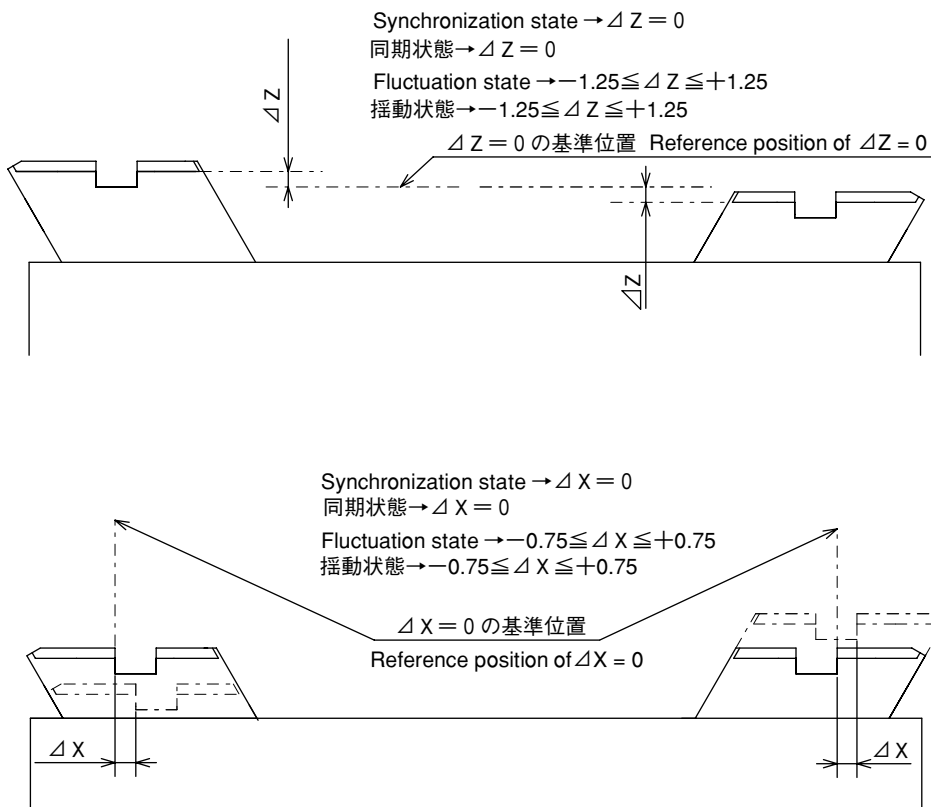

Fig. 2-4 揺動状態図（単位はmm） Fluctuation State Drawing (Unit: mm)
③給油は、北川チャックグリースを使用します。
④ジョー取付ボルトの締付トルクは、規定トルクで締付ます。
⑤この表の最大把握力は供給圧力が0.6MPaの時です。
(3) 空圧力は0.2~0.6MPaの範囲で使用して下さい。
(4) 最大揺動量はFig.2-4に表した通りです。
(1) The gripping force varies by oil supply condition, grease, gripping height, gripping face state (friction factor), etc.
(2) The maximum gripping force described in specifications means the following values.
①The maximum gripping force is a total thrust force of two top jaws.
②The standard top jaws used are Kitagawa's brand. The max. gripping force is the value measured with the Kitagawa's gripping force measuring instrument when two top jaws are synchronized with the end face of gripping force measuring instrument touched to the locator at 1/2 position of master jaw stroke and also, the instrument arranged to 1/2 of top jaw height. In the face clamp, the max. gripping force is the value measured with the Kitagawa's gripping force measuring instrument when two top jaws are synchronized at 1/2 position of master jaw stroke by using the exclusive jig measuring the gripping force at the bottom face of each top jaw.
③Lubricate Kitagawa's chuck grease for lubrication.
④Jaw mounting bolts are tightened at a specified torque.
⑤The maximum gripping force in this list is when supply pressure is 0.6MPa.
(3) Use the air pressure at range of 0.2—0.6MPa.
(4) Maximum fluctuation value is shown in Fig. 2-4.